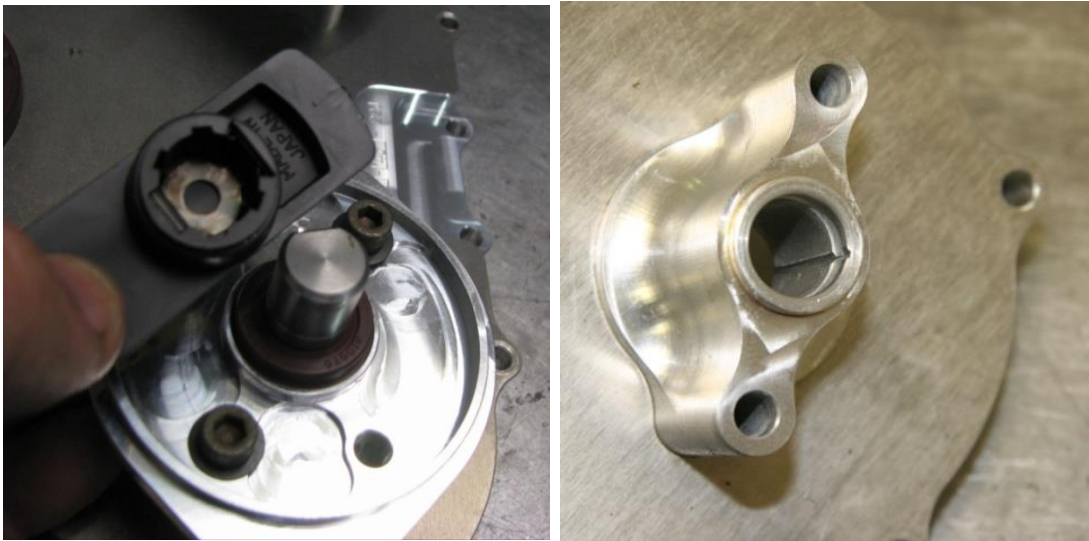

Figure 156 – New Distributor Shaft Bush Fitted – nopic x 1
- Glue the distributor rotors to the shafts using 5-minute Araldite mixed with a suitable filler (such as cotton flock) as shown in Figure 156.
- New bushes must be fitted to the distributor housings as shown in Figure 156. Distributor posts must be generously lubricated with Nulon L90 or grease.